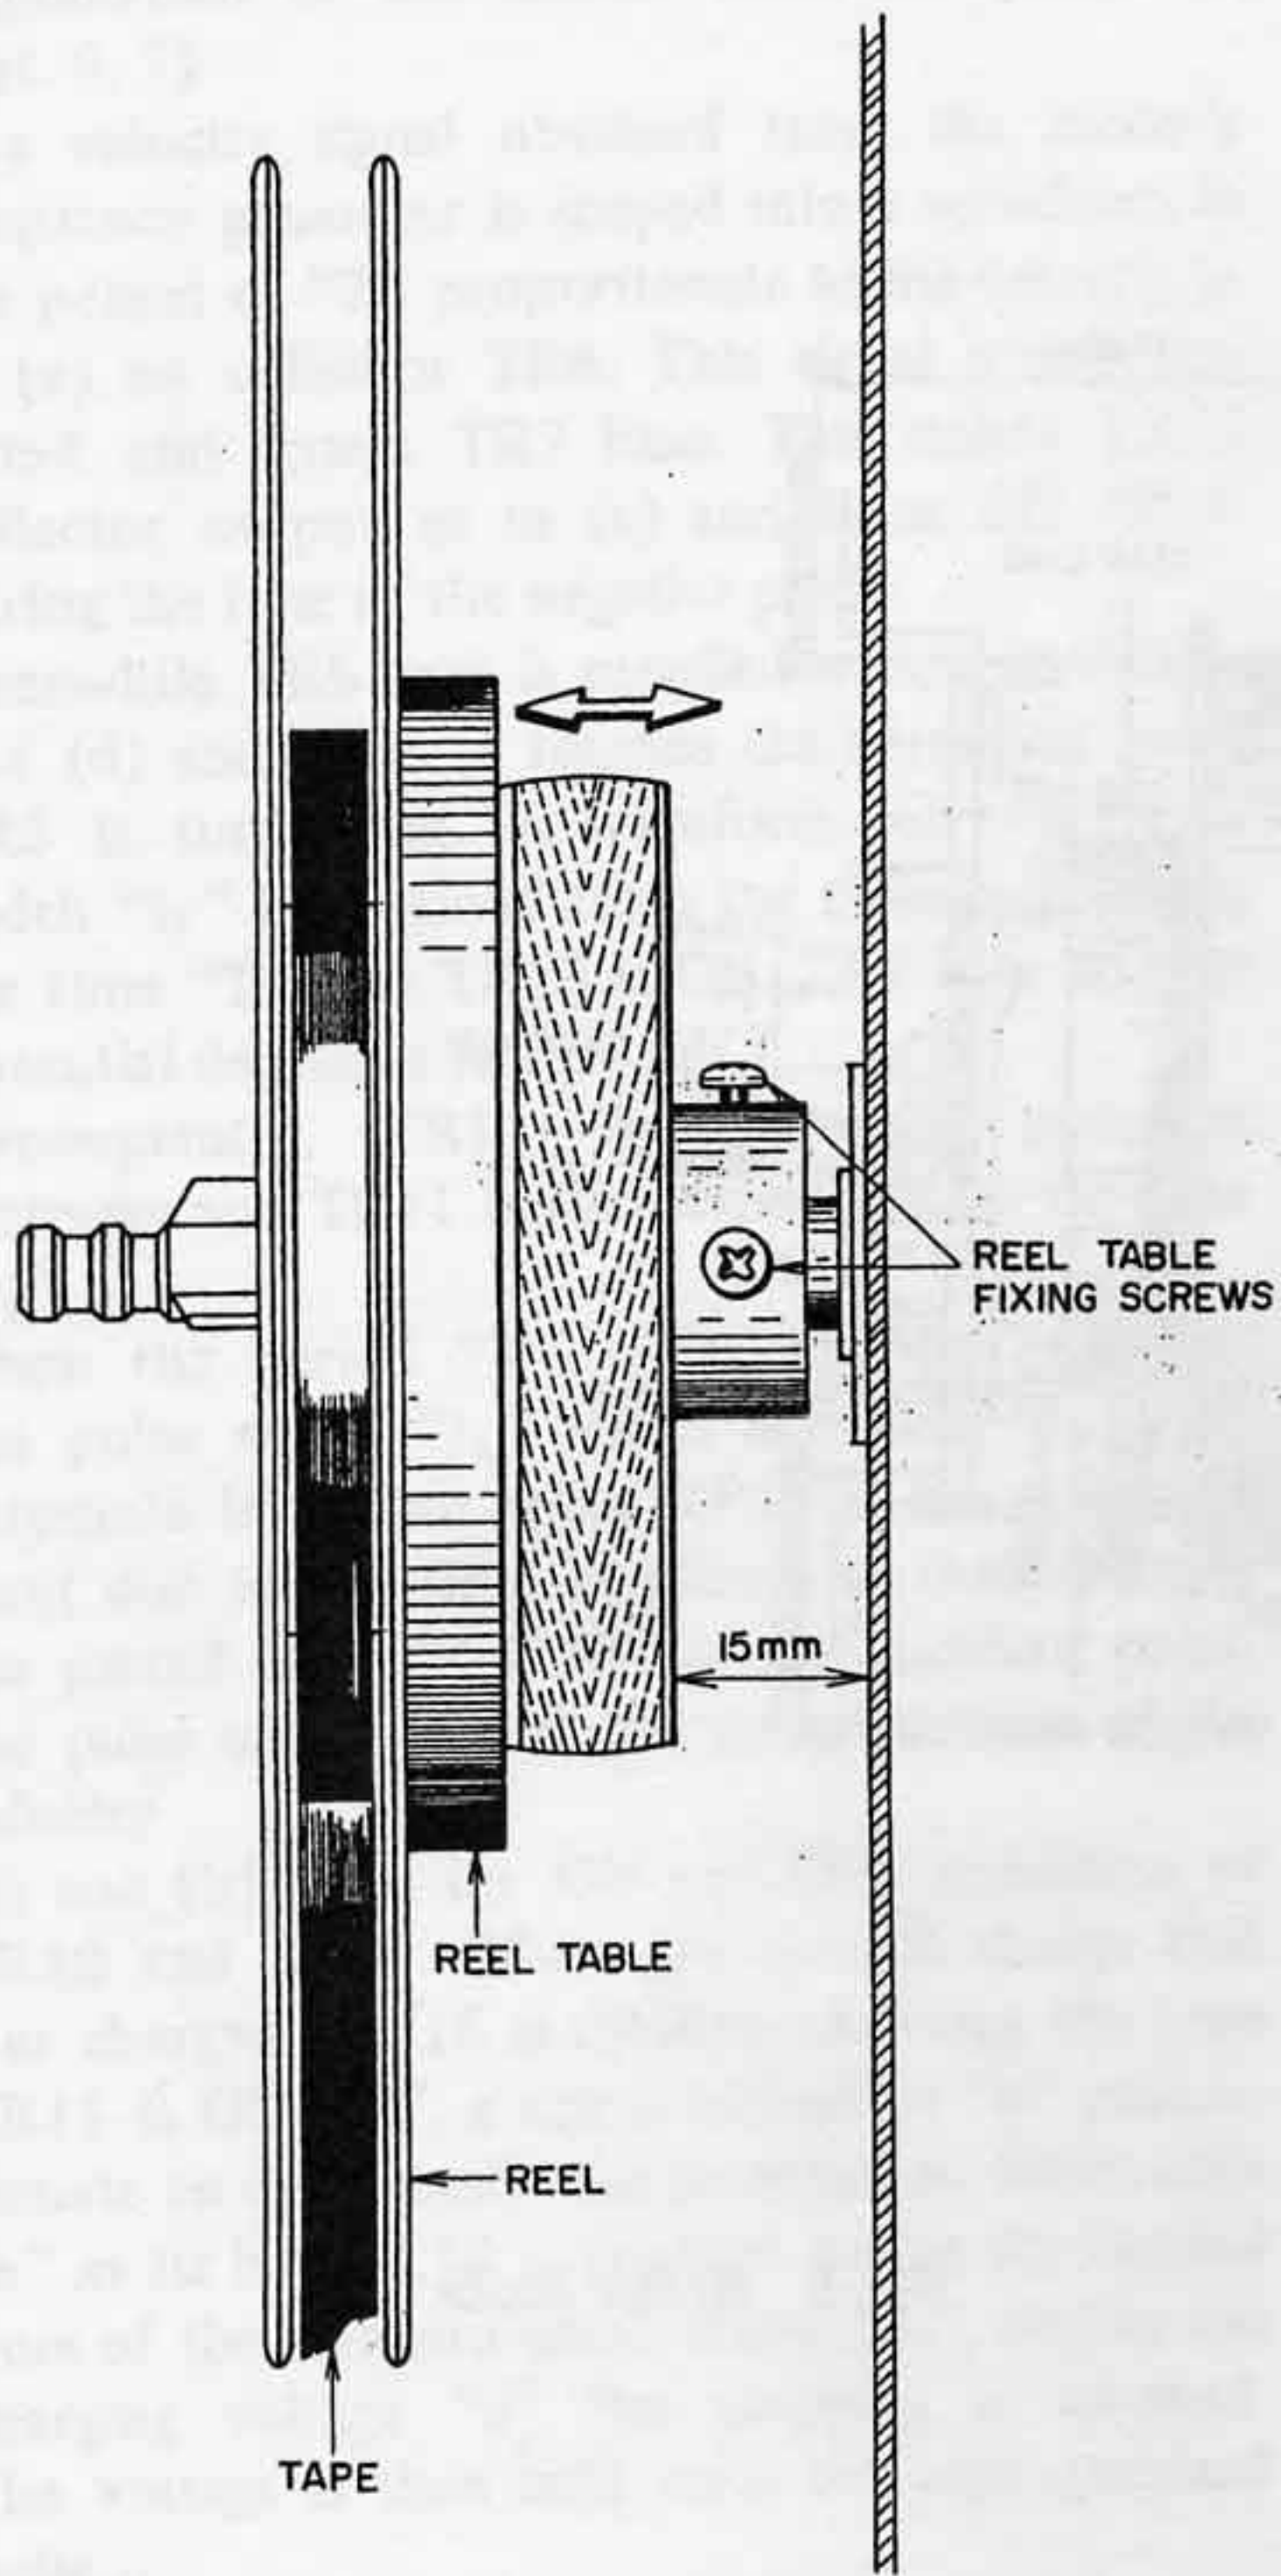

Fig. 9
4. REEL TABLE HEIGHT ADJUSTMENT (Refer to Fig. 9)